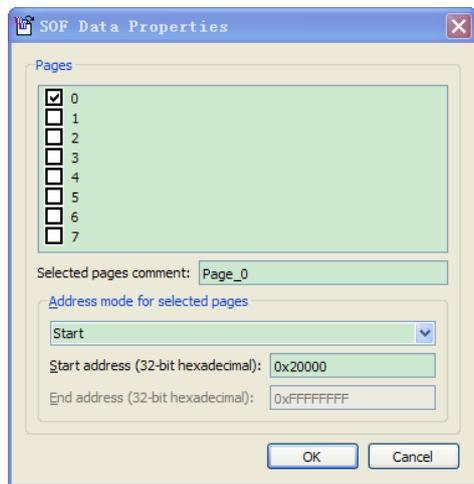

Figure 3-3 SOF Data Properties dialog box
- g. Browse to the unencrypted SOF file and click Open. Still highlight SOF Data. Click **Properties**, SOF Data **Properties** dialog box appears, and set each item as shown in Figure 3-3.